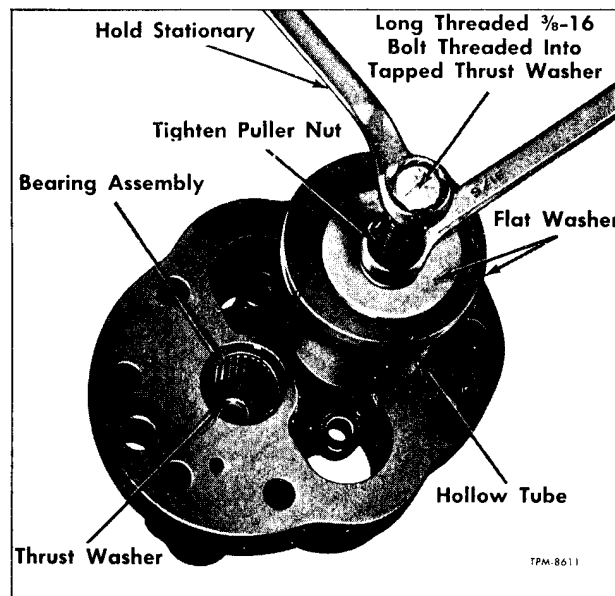

Figure 29—Method of Pulling Thrust Washer and Shaft Bushing
10. If inspection indicates that bearings (27) need be replaced, they can be pulled from recess.
NOTE: Bearings will be further damaged in the pulling process. Referring to figure 29, and using puller equipment shown, pull thrust washers (28) which will also pull the bearings (27) from housings.
11. If necessary, dowel pins (12) can be driven from attached part.
11. If inspection indicates that bearings (27) need be replaced, they can be pulled from recess.
12. If necessary, remove dowel pins (12).
13. Remove plugs (40), O-rings (39), springs (37 and 42), and pistons (36 and 41) from valve block (32). Be careful not to lose shims (38) between relief valve spring (37) and hex plug.